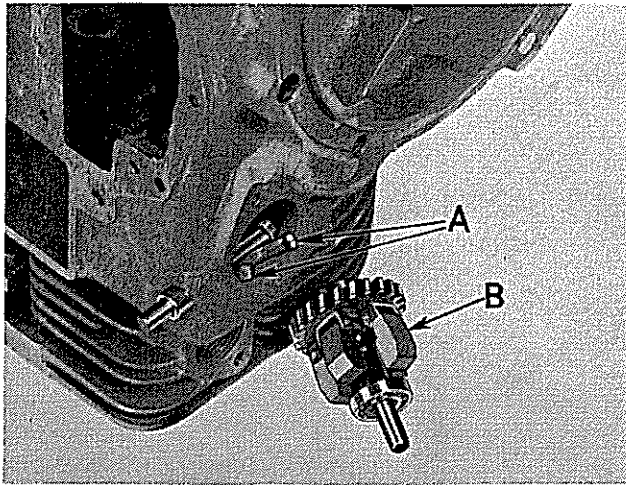

Figure 14
- b. Remove governor assembly (B, Figure 14). The governor assembly is pressed into the block and can be removed by turning a cap screw into the end of the shaft and pulling directly on the cap screw.
- c. Remove yoke (A, Figure 14). Unscrew by turning counter-clockwise.
- a. The first step in governor assembly installation is the insertion of the two needle bearings which support the governor yoke shaft in the cylinder block assembly. (See Figure 14).
- c. Drive the open needle bearing into place. (Figure 14). The drilled and tapped hole in the governor yoke shaft must be in the exact center of the governor hole opening.
- e. Insert the governor assembly (B, Figure 14) into the governor opening so as to guide the governor shaft in a perfectly centered position.
- g. The two protrusions on the governor yoke (A, Figure 14) must be perfectly aligned with the outer race of the ball bearing. If the yoke rides to one side of the outer race, it will be necessary to shift the governor yoke shaft bushings so that proper contact is made.